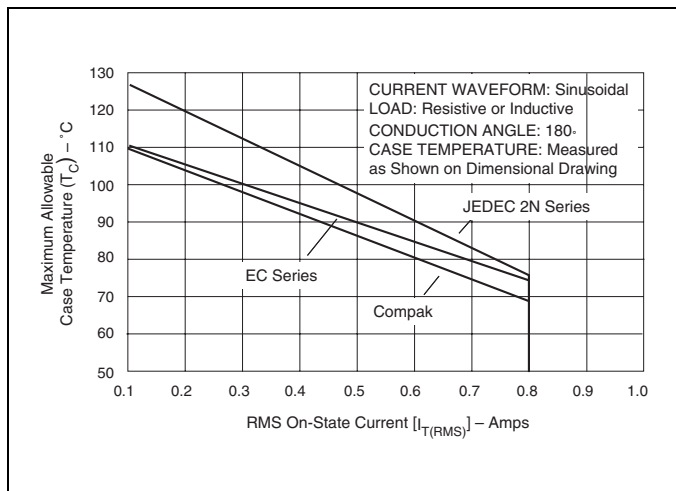
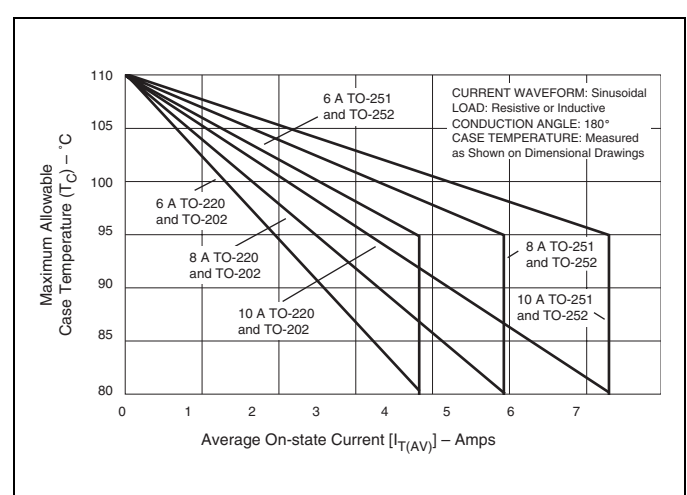
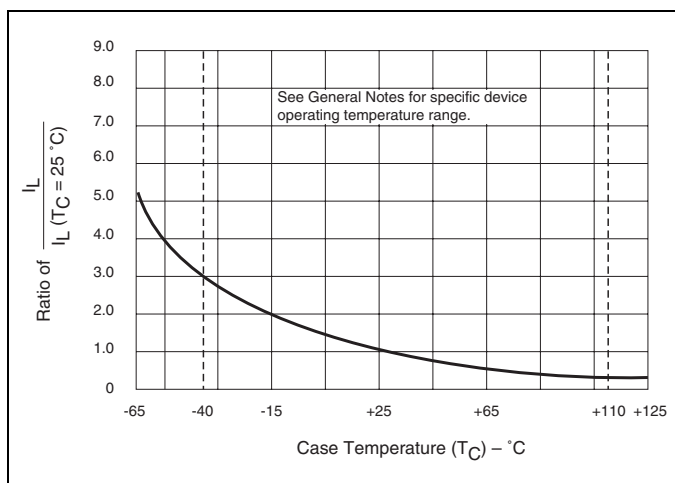

Figure E5.1 Maximum Allowable Case Temperature versus RMS On-state Current
Figure E5.9 Maximum Allowable Case Temperature versus Average On-state Current
Figure E5.18 Normalized DC Latching Current versus Case Temperature
- (1) See Figure E5.1 through Figure E5.9 for current ratings at specified operating temperatures.
- (13) See Figure E5.1 through Figure E5.9 for maximum allowable case temperature at maximum rated current.
- (14)  $I_{GT} = 500 \mu A$  maximum at  $T_C = -40^\circ C$  for T106 devices
- (15)  $I_H = 10$  mA maximum at  $T_C = -65^\circ C$  for 2N5064 Series and 2N6565 Series devices
- (16)  $I_H = 6$  mA maximum at  $T_C = -40^\circ C$  for T106 devices
- (17) Pulse Width  $\leq 10 \mu$ s
- (18)  $I_{GT} = 350 \mu A$  maximum at  $T_C = -65^\circ C$  for 2N5064 Series and 2N6565 Series devices
- (19) Latching current can be higher than 20 mA for higher  $I_{GT}$  types. Also, latching current can be much higher at  $-40^\circ C$ . See Figure E5.18.
- (20)  $T_C$  or  $T_L = T_J$  for test conditions in off state
- (21)  $I_{DRM}$  and  $I_{RRM} = 50 \mu A$  for 2N5064 and 100  $\mu A$  for 2N6565 at 125 °C
- (22) TO-92 devices specified at  $-65^\circ C$  instead of  $-40^\circ C$
- (23)  $T_C = 110^\circ C$